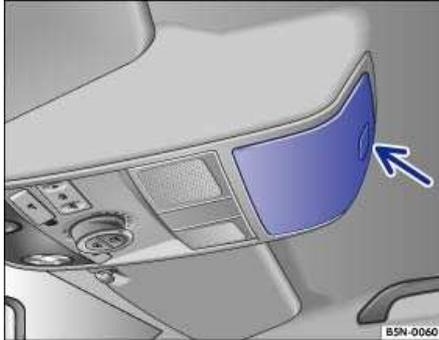

Fig. 73 Case for eyeglasses in roof.
- Press the release button to open ⇒ Fig. 73. The cover opens automatically.